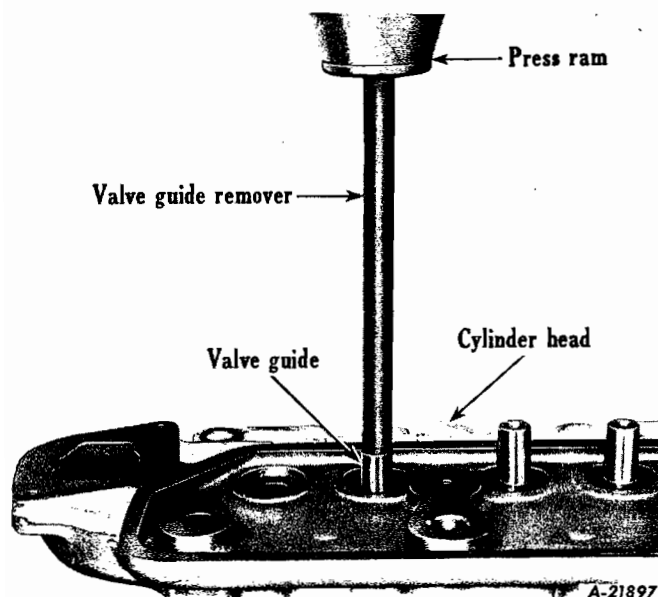
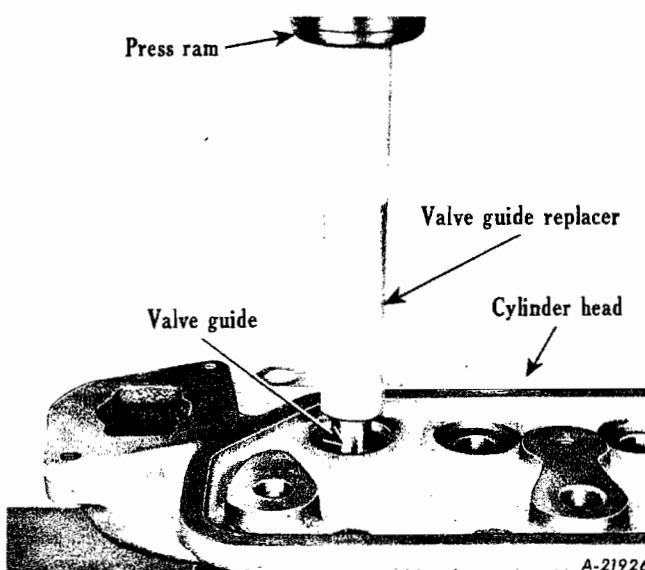

Fig. 17 - Use SE-1722 Valve stem guide tool.
Fig. 18 - Using SE-1723 Guide replacer. Push guide down until tool bottoms on head.
2. If any valve guide shows excess clearance or out-of-round condition, press guide from cylinder head with a special removing tool (Fig. 17). Install new guide, and press into cylinder head until approximately 1-1/4" remains above the top surface of cylinder head (Fig. 18). Check valve guides after installation to .3758" to .3743" with "Go and No-Go" gauge. Ream valve guides to .3743"-.3758" after assembly in cylinder head.